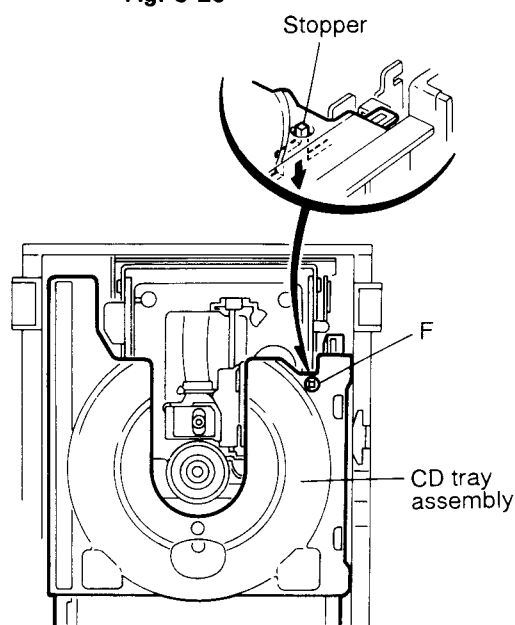

Fig. 5-21
11. Check whether the lifter unit stopper has been caught into the hole at the section (F) of CD tray assembly as shown in Fig. 5-21.